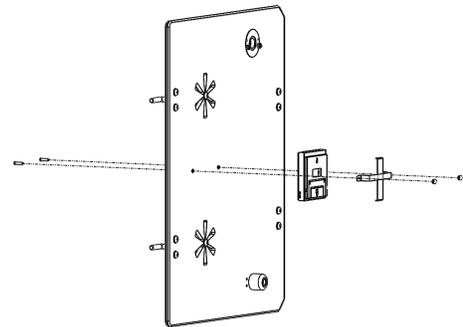

FIGURE 3.17 - Thermometer/Hygrometer
STEP 2: Remove the two screws, washers and acorn nuts to detach the bracket and meter. Reinstall the meter to read upright. See FIGURE 3.17